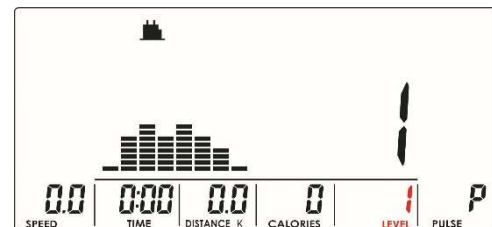

Fig. 010
- Use the UP or DOWN buttons to change the resistance LEVEL. Level 1 is set by default (Fig. 010).